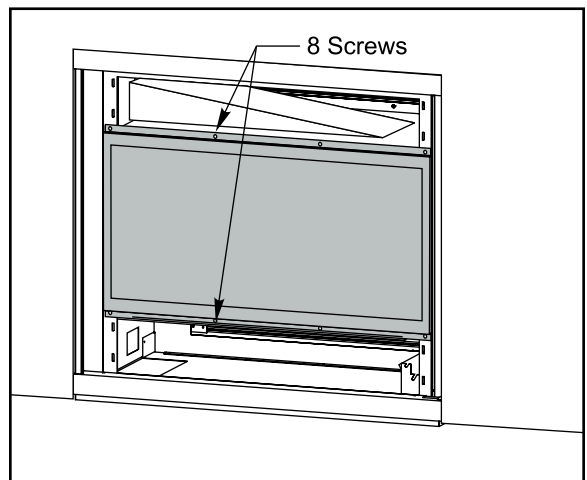

Figure 22c. Removing the door.
To remove the inner doors, simply unscrew the eight (8) machine screws on the top and bottom of the door. (See figure 22c).